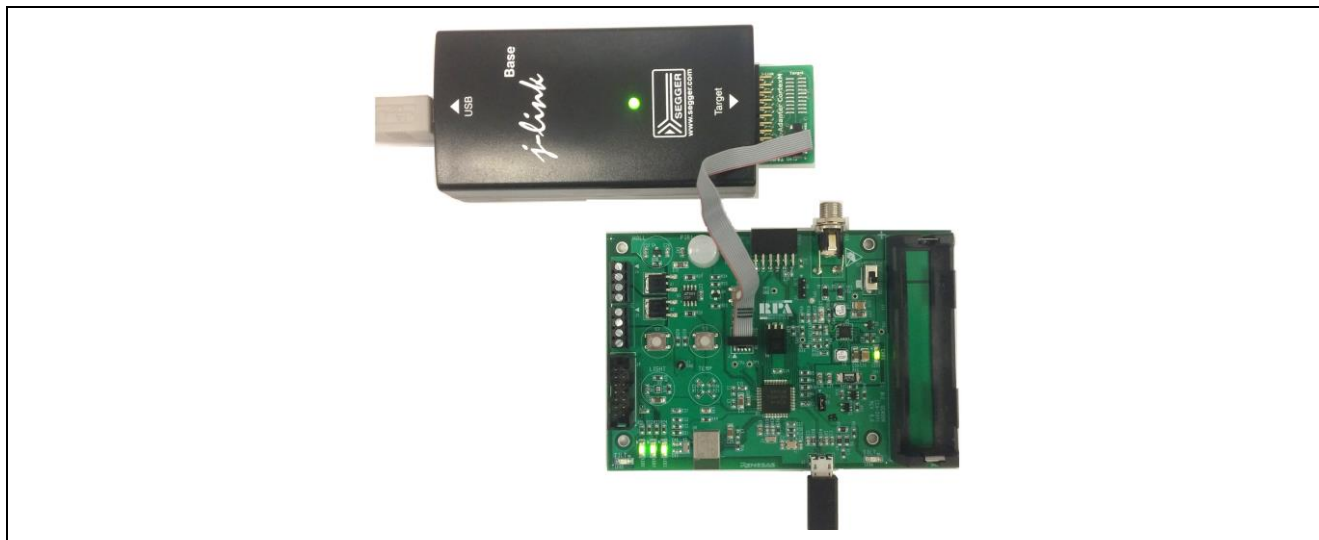

Figure 3 Renesas Synergy™ S124 Hardware Programming/Debugging setting
1. To enable JTAG debug function on the S124 Sensor Panel board, do the following (see Figure 3).
Figure 3 shows the debug setting with SEGGER J-Link debugger.
Step 1. Attach the J-Link connector (J1) to the SEGGER J-Link debugger unit and attach PC USB connector via micro USB cable for power supply. See Figure 3.